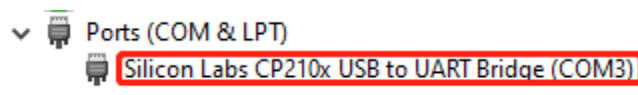

Figure 4: USB Ports
Step 4: View the USB port numbers in the Device Manager, as shown in **Figure 4** below.
Step 6: Select the correct “COM Port” (USB Port shown in **Figure 4** above).